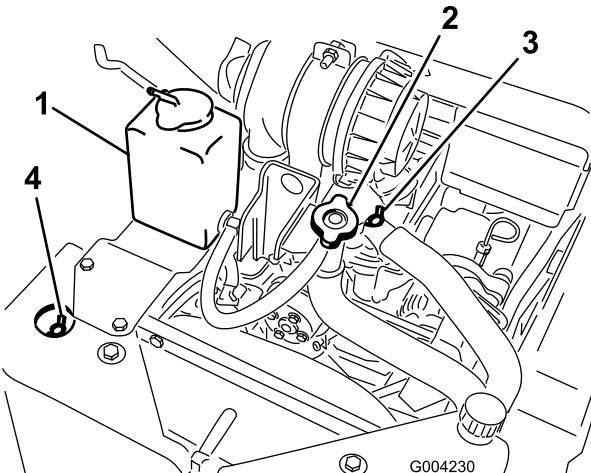

**Figure 19**
1. Check the level of coolant in the expansion tank (Figure 19).